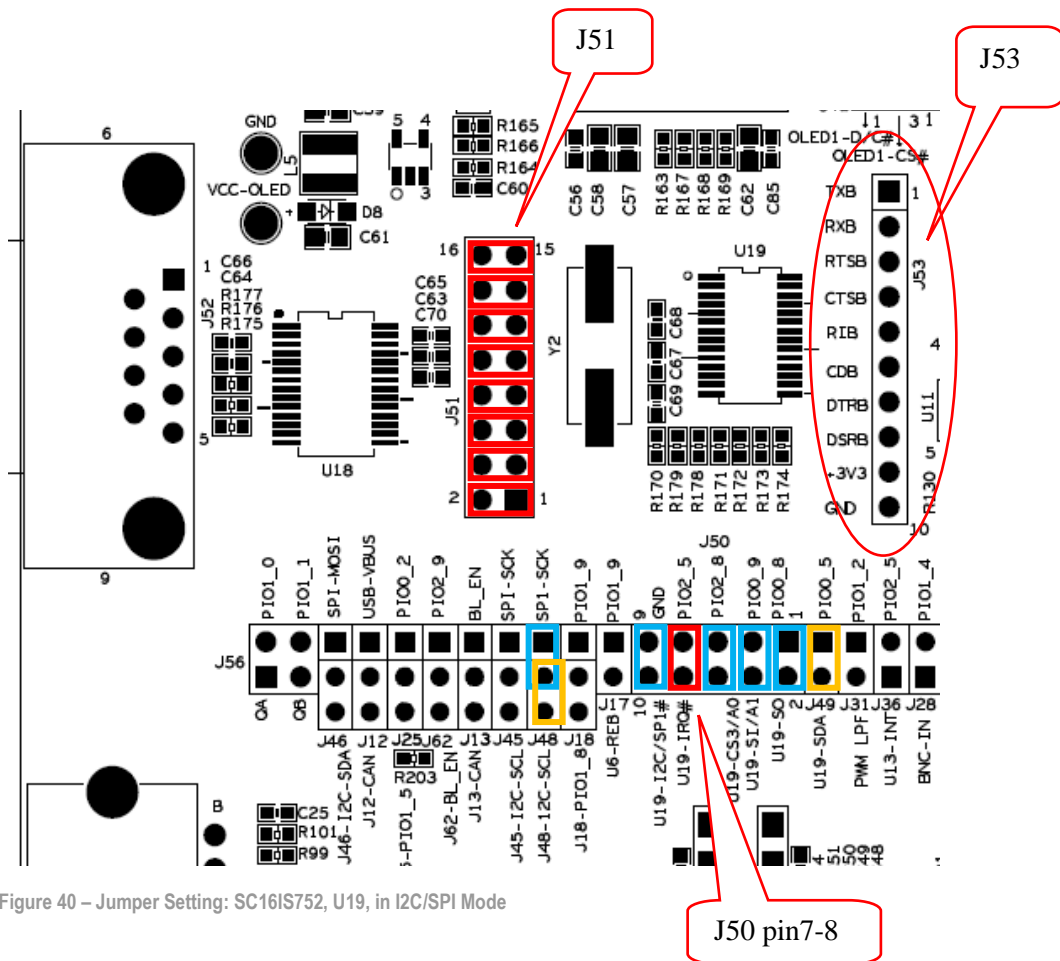

Figure 40 – Jumper Setting: SC16IS752, U19, in I2C/SPI Mode
- For I2C interface (default), insert jumpers in J48 pin 2-3, J49 (schematic page 10), as illustrated in Figure 40. Note that I2C mode is illustrated by yellow jumpers.
- For SPI interface, insert jumpers in J48 pin1-2 and J50 (schematic page 10), as illustrated in Figure 40. Note that SPI mode is illustrated by blue jumpers.
Note that J50 pin 7-8 is optional. It is the interrupt signal from the dual uart (U19) that can optionally be connected to GPIO_33. If that is wanted, insert a jumper in J50 pin 7-8. See Figure 40 for details.
Insert all jumpers in J51 (schematic page 10) in order to connect uart channel A to the RS232 interface (U18 and J52). See Figure 40 for details.